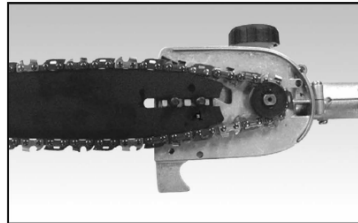

Fig. 3C
4. Adjust the tension adjustment screw to allow for insertion of the bar (Fig. 3C). Make sure it follows the groove in the guide bar and adjusts the tension adjustment screw (Fig. 3D) so that the chain is tightened.